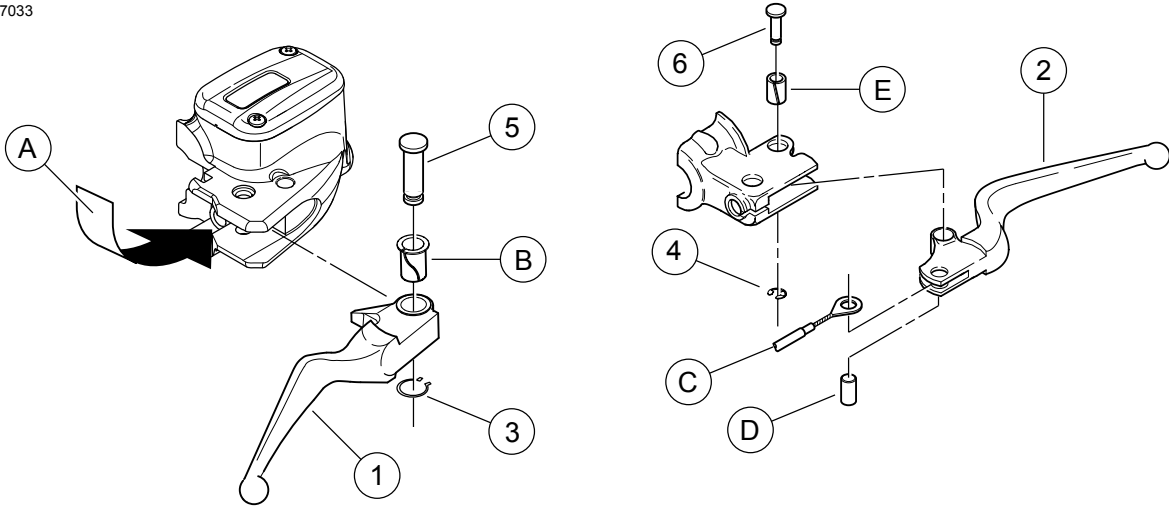

Figure 1. Service Parts: Hand Lever Kits
See Figure 1 and Table 1.
1. See the Figure 1 and the service manual. Remove the retaining ring (3) from the groove in the pivot pin (5) and discard retaining ring.